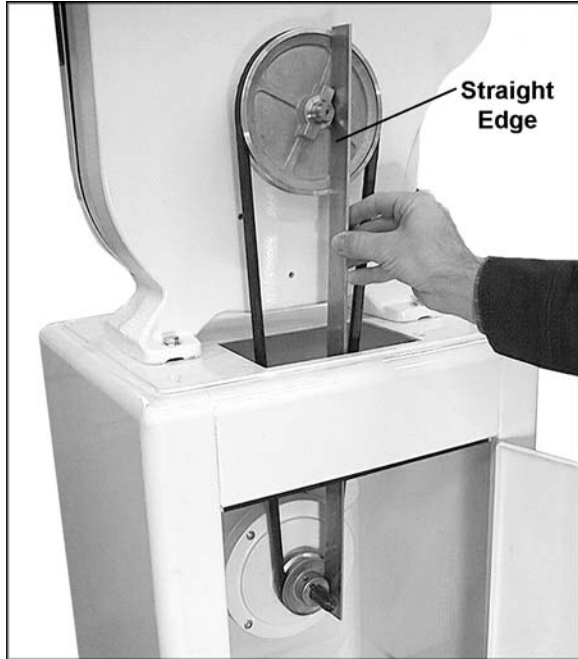
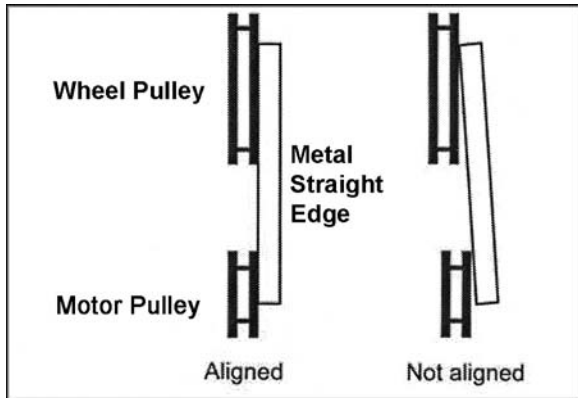

Figure 13
Figure 14
6. Check the alignment of the pulleys by placing a straight edge against the flat sides of the motor and wheel pulleys (Figure 13). If the pulleys lie in a straight plane (Figure 14) they are aligned. If they do not lie in a straight plane, loosen the set screw on one of the pulleys and shift the pulley in or out
7. Open the lower door, and place the v-belt around the motor pulley and the wheel pulley (see Figure 13).